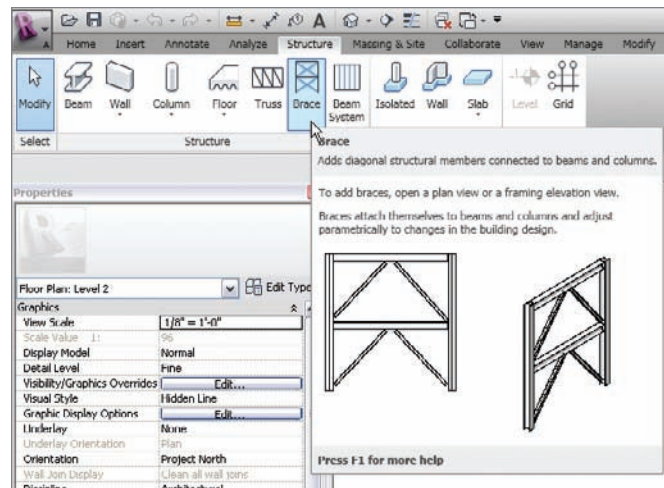

FIGURE 8.44 The Brace button on the Structure tab
6. On the Structure panel of the Structure tab, click the Brace button, as shown in Figure 8.44.